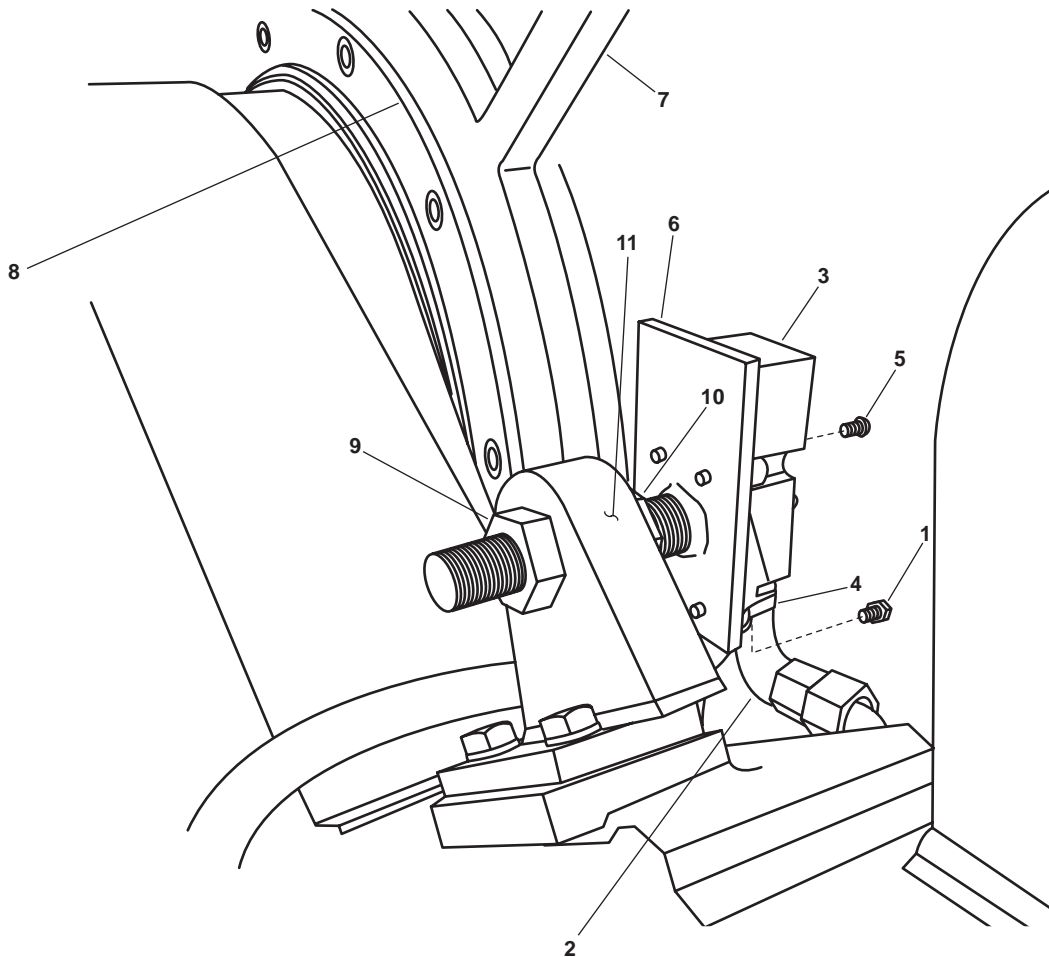

Figure 2. Proximity Switch
5. Remove the two bolts (figure 2, item 1) that secure the electrical cable (figure 2, item 2) to the proximity switch (figure 2, item 3).
6. Remove the electrical cable (figure 2, item 2) and wiring (figure 2, item 4) from the proximity switch (figure 2, item 3).
7. Remove the four screws (figure 2, item 5) that secure the proximity switch (figure 2, item 3) to its mounting plate (figure 2, item 6).
8. Remove the proximity switch (figure 2, item 3) from its mounting plate (figure 2, item 6).
1. Position the proximity switch (figure 2, item 3) on its mounting plate (figure 2, item 6) and secure it with four screws (figure 2, item 5).
2. Connect the wiring (figure 2, item 4) and secure the electrical cable (figure 2, item 2) to the proximity switch (figure 2, item 3) with the two bolts (figure 2, item 1).
14. A complete circuit must be present each time a hub member (figure 2, item 7) on the towing machine drum (figure 2, item 8) passes the proximity switch (figure 2, item 3). If a complete circuit is present when each towing machine hub member crosses the proximity switch, the proximity switch is adjusted properly. If a complete circuit is not present each time a towing machine hub member crosses the proximity switch, continue with the procedure.
15. Loosen the outer nut (figure 2, item 9) and the inner nut (figure 2, item 10) on the tapping block (figure 2, item 11).
16. Slide the proximity switch mounting plate (figure 2, item 6) in toward the hub member (figure 2, item 7) of the towing machine drum (figure 2, item 8). Check for a complete circuit as described in steps 13 and 14 above. Once a complete circuit is established, rotate the towing machine drum so that each towing machine hub member crosses the proximity switch (figure 2, item 3). If a complete circuit is present when each towing machine hub member crosses the proximity switch, the proximity switch is properly adjusted. Proceed to the next step. If a complete circuit is not present as each towing machine hub member crosses the proximity switch, continue to adjust the proximity switch until a complete circuit is achieved for each towing machine hub member as it crosses the proximity switch.
17. Once a complete circuit is achieved on each hub member (figure 2, item 7) of the towing machine drum (figure 2, item 8), tighten the outer nut (figure 2, item 9) and the inner nut (figure 2, item 10) on the tapping block (figure 2, item 11).